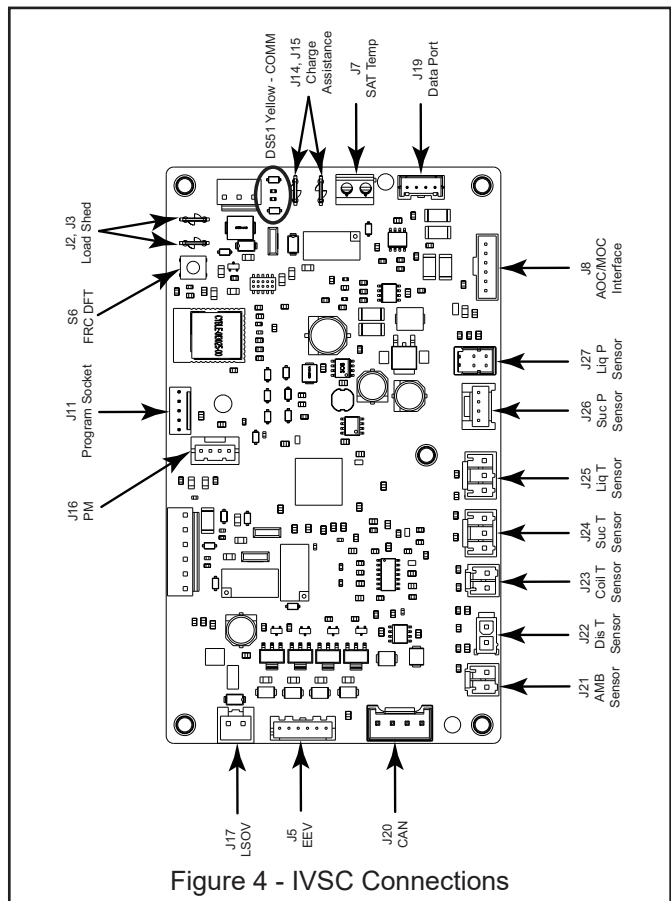

Figure 4 - IVSC Connections
3. Unplug all AOC connectors located at the top of the drive and move the leads aside (See "Figure 4 - IVSC Connections").
Refer to Figures 4 and 5 for location of sensors and harnesses and reattach the connectors to the AOC and MOC. While the order in which you reattach the wiring is not significant, you may find it easiest to start in the upper left hand of the AOC and move down and then right.